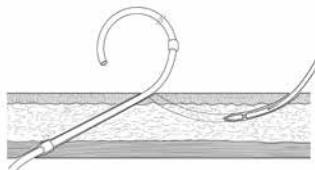

Figure 35
5. Insert Tunnelor Tool at the exit-site (Figure 35).